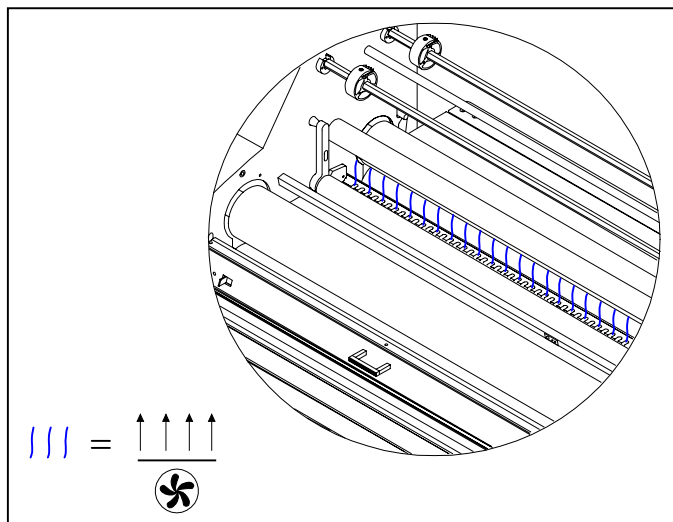

Fig. 8
**Cooling**  : (Figure 8) When pressed, turns on the cooling fans. When pressed again, turns off the cooling fans.